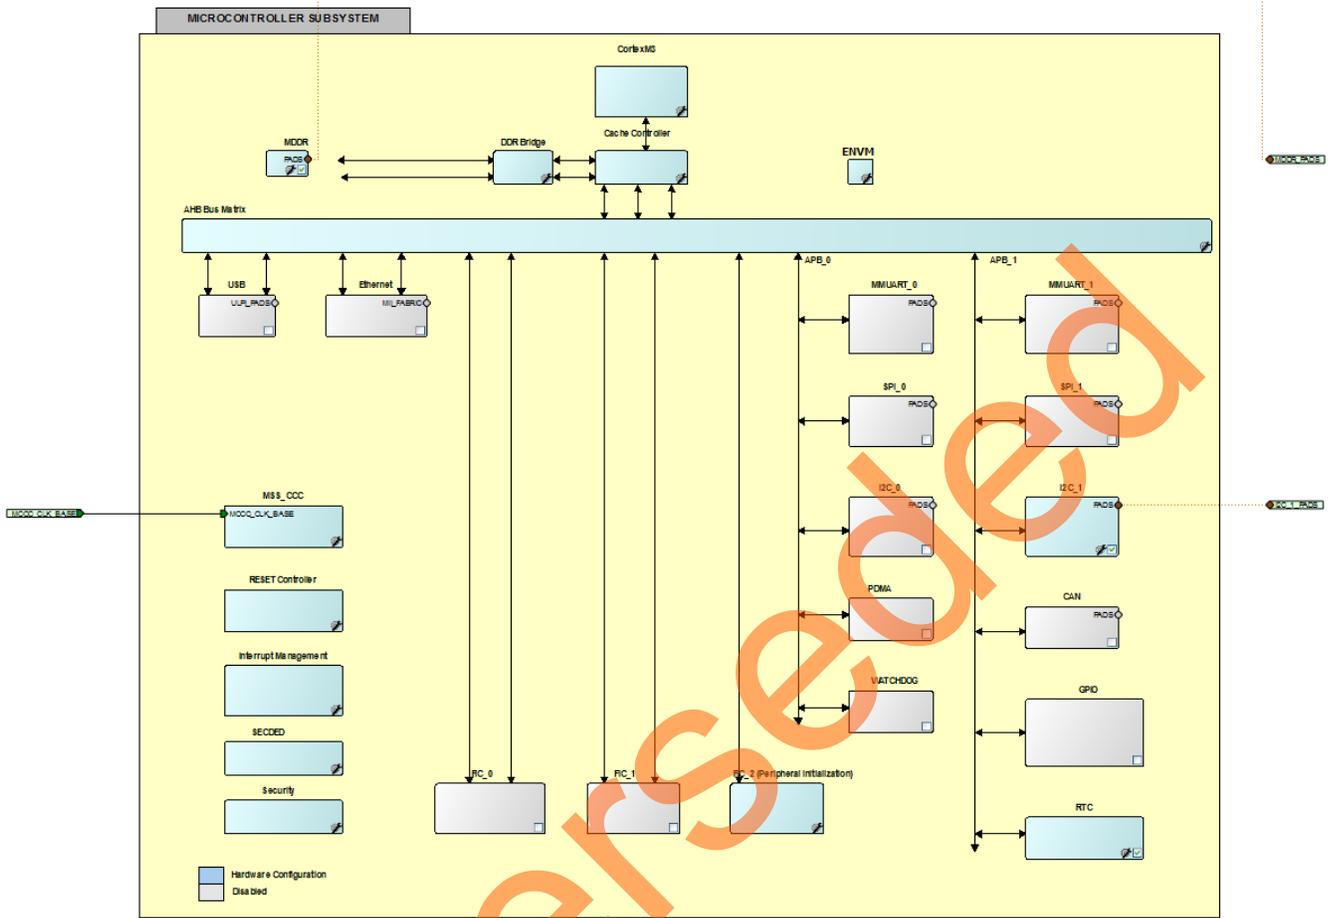

Figure 10. Enabled and Disabled MSS Components
Figure 10 shows the **MSS Configuration** window after disabling the above components.
3. Double-click the **MDDR** block and configure the following as shown in Figure 10.